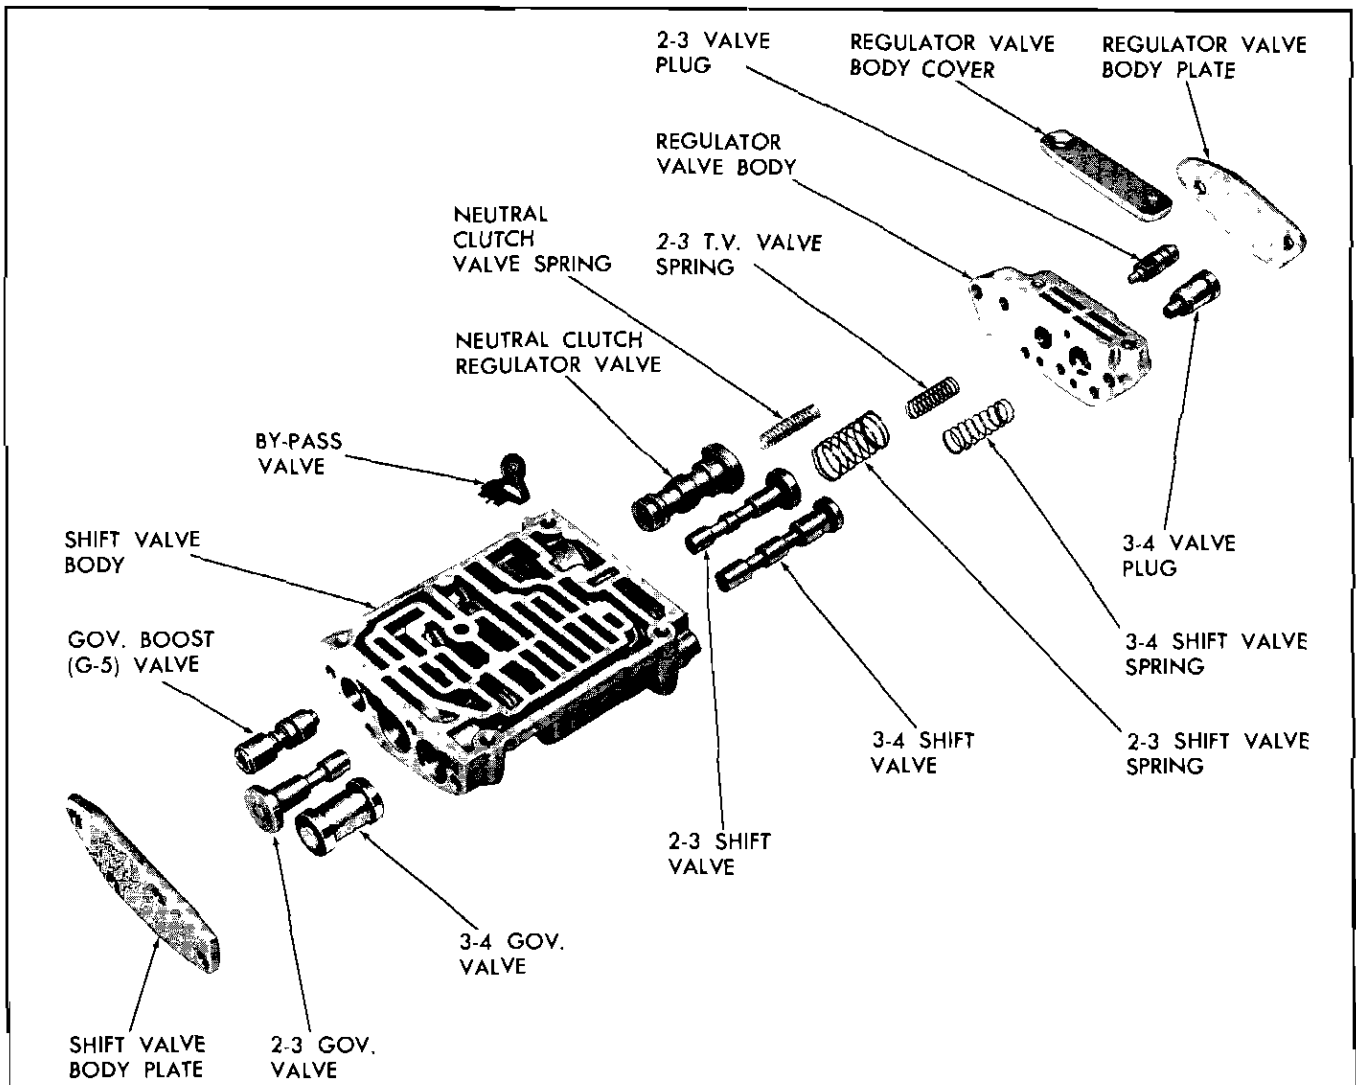

Fig. 137 Shift Valve Parts—Exploded
1. Remove neutral clutch by-pass valve from shift valve body (Fig. 137).
1. Install 3-4 governor valve with round end facing out (Fig. 137).